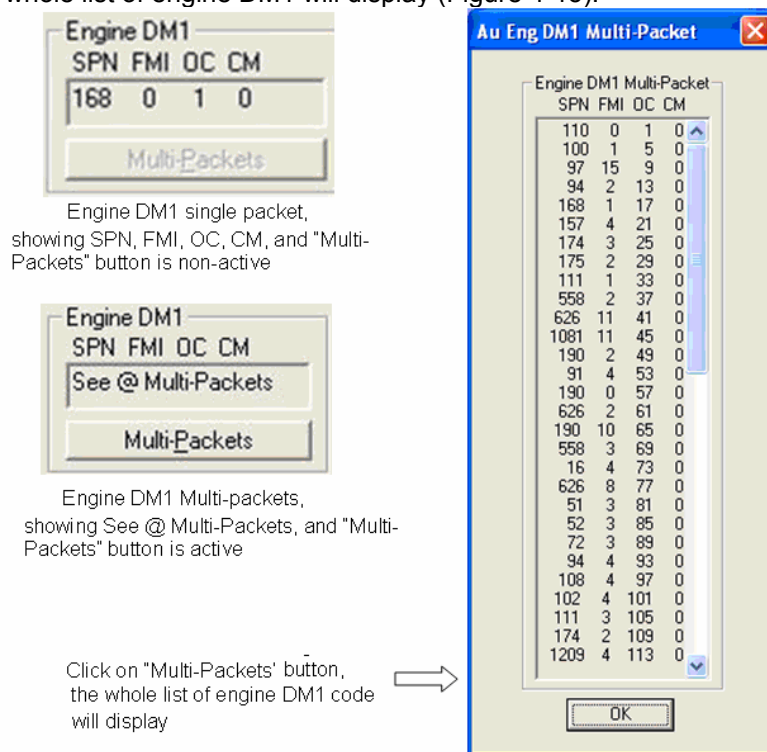

Figure 4-15
- when engine DM1 is a multi-packet message, “see @ Multi-Packets” will display, “Multi-packets” button will be active , click on it, the whole list of engine DM1 will display (Figure 4-15).